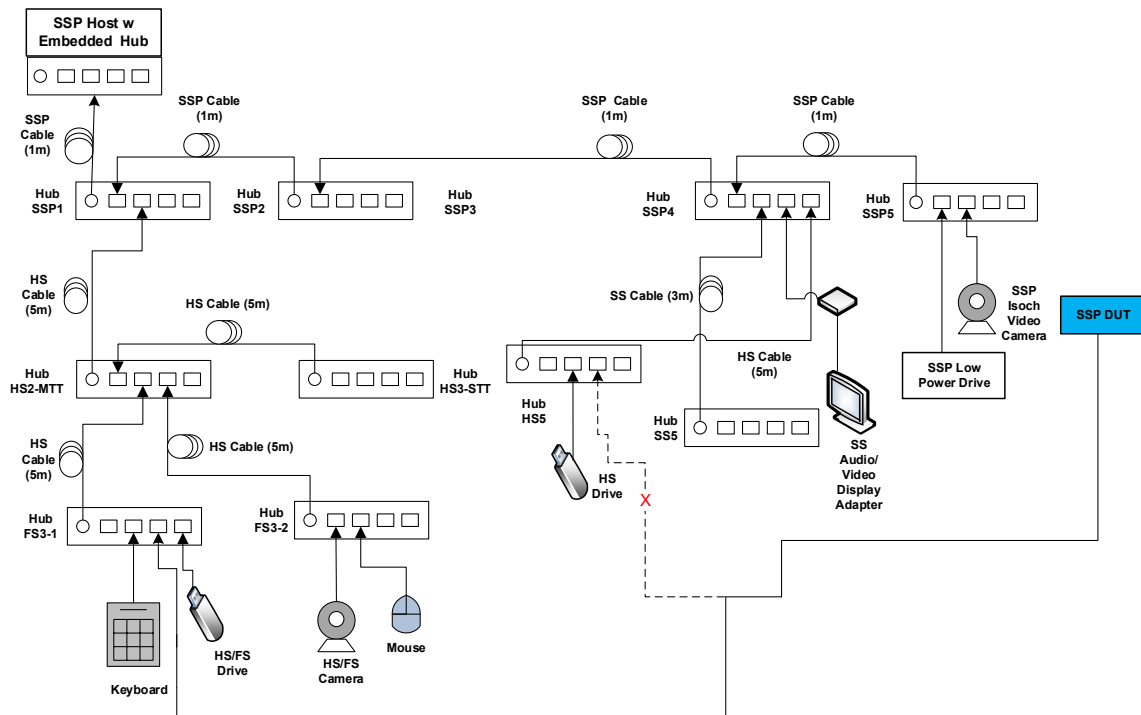

Figure 2-8: Topology Change 3 - Low/Full-Speed capable devices only (embedded hub)
- While operating the devices, attach the Device Under Test to port 3 on Hub FS3-1 as shown below in Figure 2-7 and Figure 2-8.